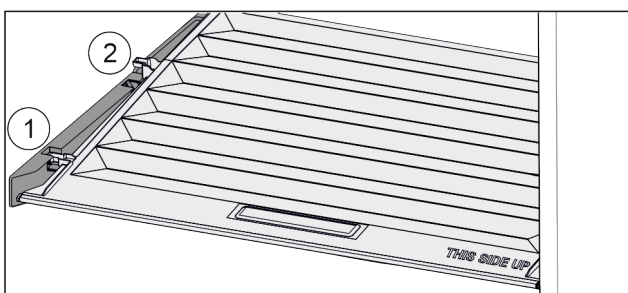

Fig. 111
- ▶ Pull the lid up at the front to the opening in the retaining parts Fig. 111 (1).
- ▶ Lift from the back and pull it up and out Fig. 111 (2).